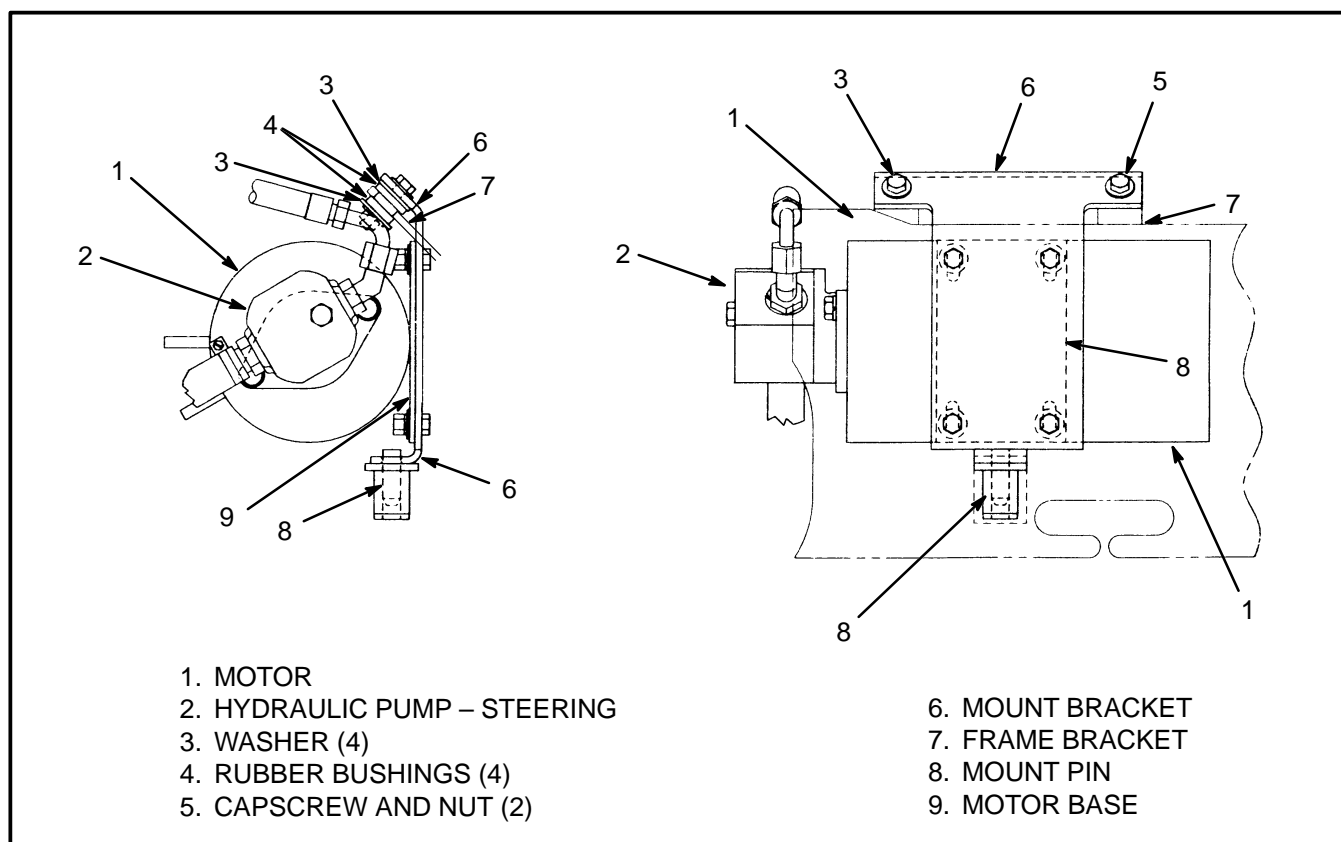
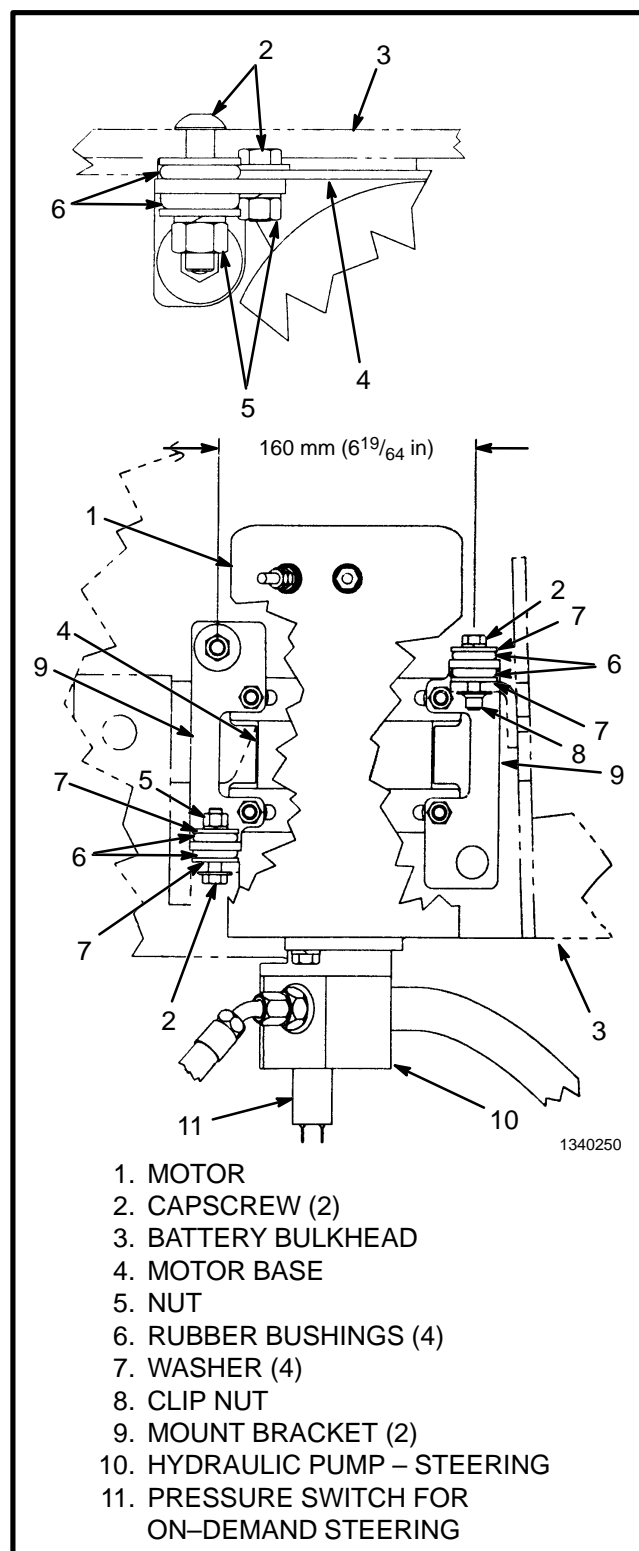

FIGURE 16. E1.50–2.00XM (E25–40XM) STEERING PUMP AND MOTOR
FIGURE 17. E2.00-3.20XM (E45-65XM),
Pump Removal And Disassembly, E1.50–3.20XM (E25–65XM) and N30XMH (See FIGURE 16. or FIGURE 17.)
6. Make a note of the positions of the rubber bushings at the mount brackets and remove the capscrews that fasten the brackets. See FIGURE 17.
Pump Removal And Disassembly, J2.00–3.20XM (J40–65XM) (See FIGURE 17.)
7. Make a note of the positions of the rubber bushings at the mount brackets and remove the capscrows that fasten the brackets. See FIGURE 17.
Pump Assembly And Installation (See FIGURE 16. or FIGURE 17.)
- a. Install the mount brackets on the motor base. See FIGURE 17. Leave the capscrews and nuts loose so that the brackets can move.
- b. Align the two brackets so that the center lines of the capscrew holes are 160 mm ($6\frac{19}{64}$ in) apart as shown in FIGURE 17. Keep the brackets centered in the slots of the motor base as much as possible.
5. Install the mount capscrews, washers and rubber bushings as noted during disassembly. See FIGURE 17. Install the clip nut at the top left mount of the frame. Tighten the capscrews without compressing the rubber bushings.